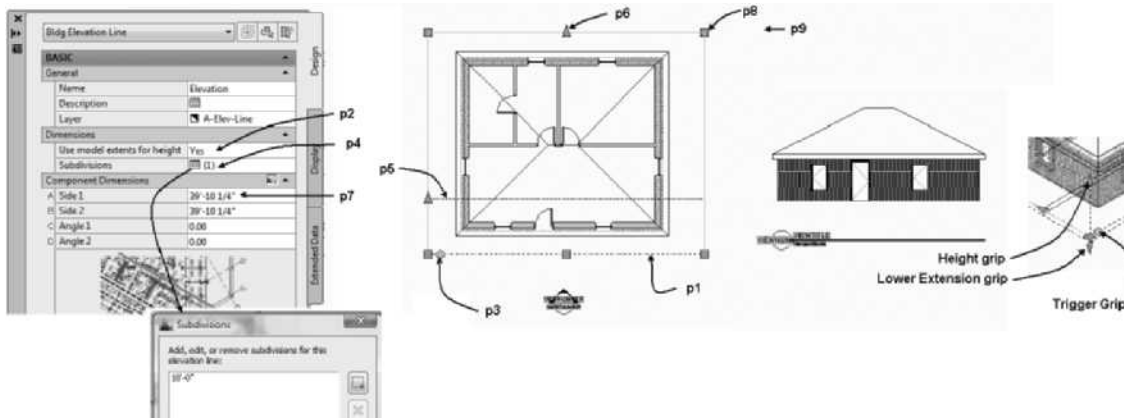

FIGURE 12.14 Properties of the Building Elevation/Section line
4. Select the building elevation/section line shown at **p1** in Figure 12.14. Verify the Properties palette is open. The General section of the Design tab lists the layer property as A-Elev-Line.
5. The Dimensions section indicates the Use model extents for height is listed as Yes (refer to **p2** in Figure 12.14); therefore, the height property creates a projection box inclusive of the height of the objects selected for the elevation.